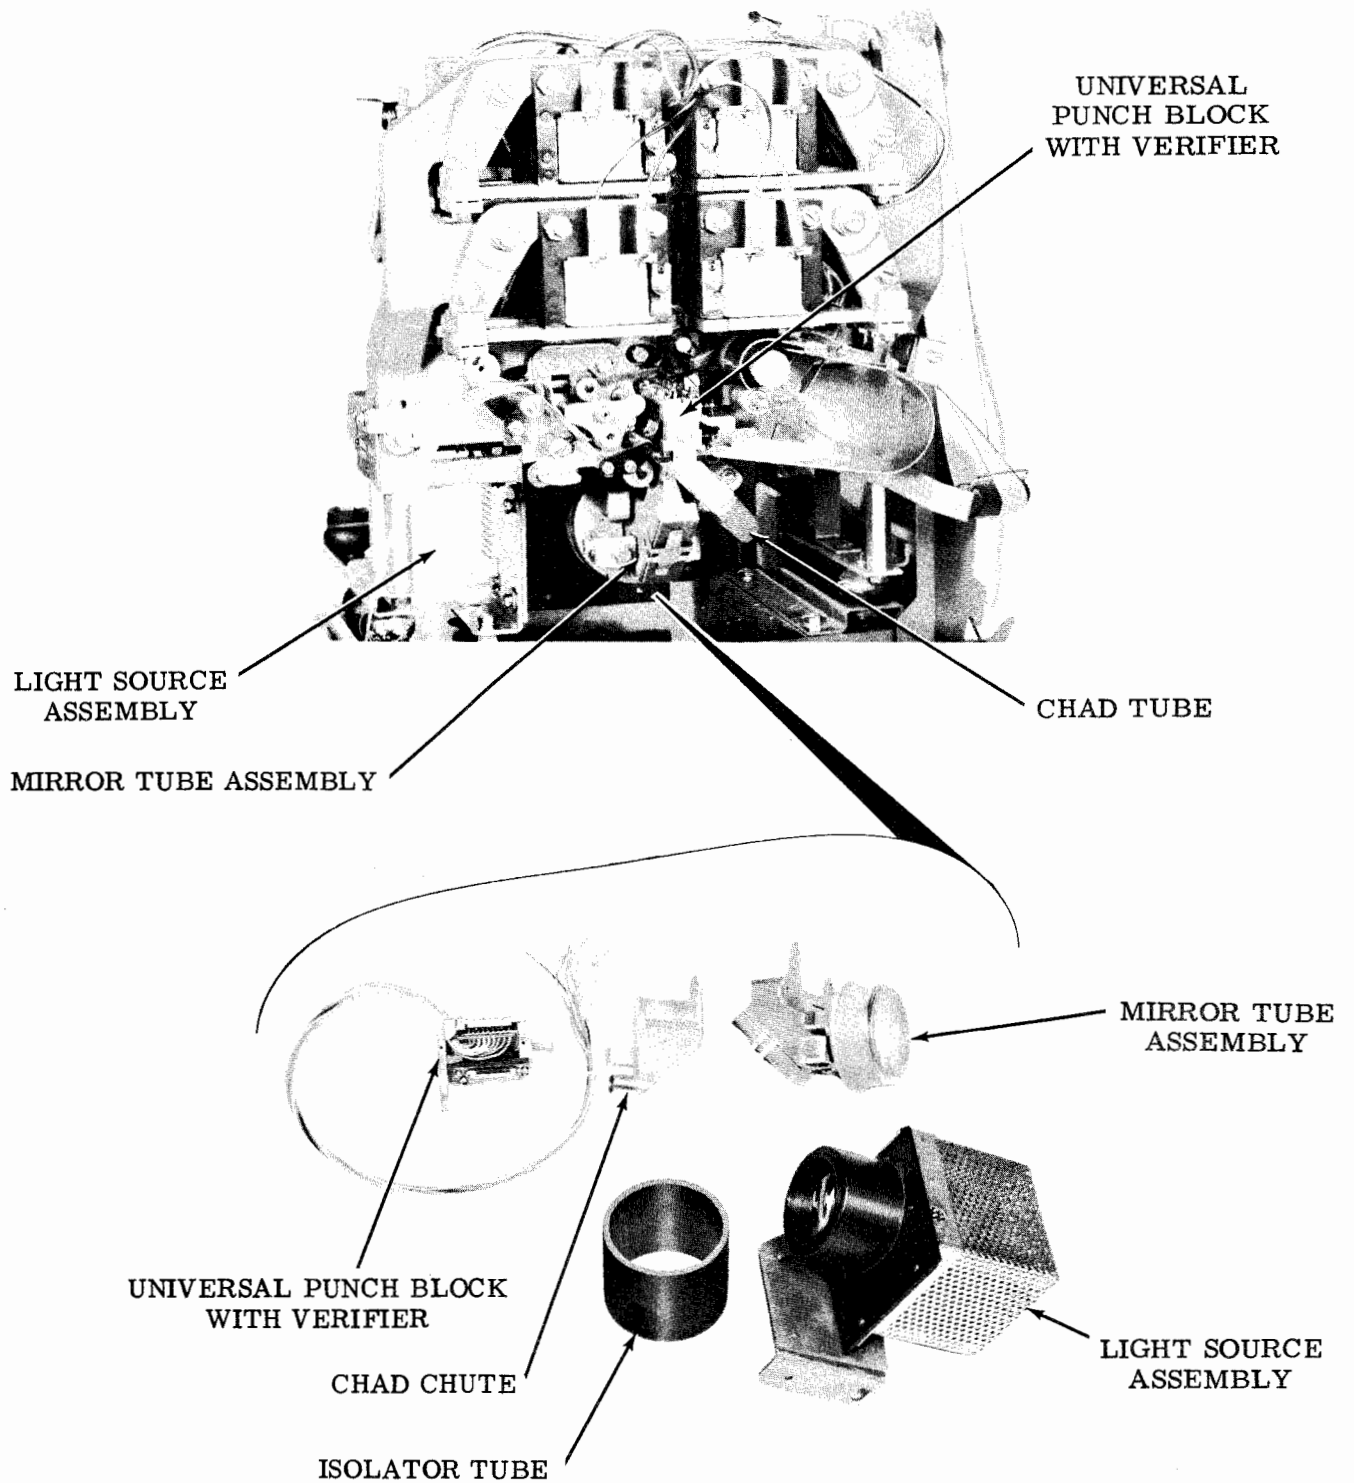

Figure 8 - Eight-Level Punch Unit with Photoelectric Reader, Front View
3.01 To remove the chad chute (Figure 8):
- (1) Remove the chad tube from the chad chute bracket by holding the bracket in one hand and pulling the chad tube off the bracket with the other hand.
- (2) Remove the chad tube bracket by removing the two screws (TP151152), lockwashers (TP3640), and flat washers (TP125011) that secure it to the punch block and adapter bracket.
3.02 To remove the light source assembly (Figure 8):
3.03 To remove the mirror tube assembly (Figure 8):
3.04 To remove the punch block assembly with verifier (Figure 8):